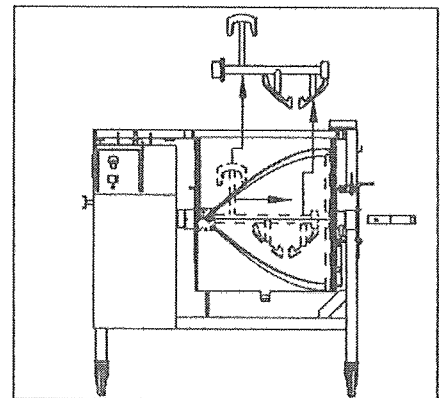

FIGURE 3
3. Remove the inside paddle shaft by sliding the paddle shaft toward the paddle pin side of the hopper and then lifting up. The inside paddle shaft assembly may need to be tilted at an angle while lifting out to allow the drive coupler to be released from the drive hub (figure 3).